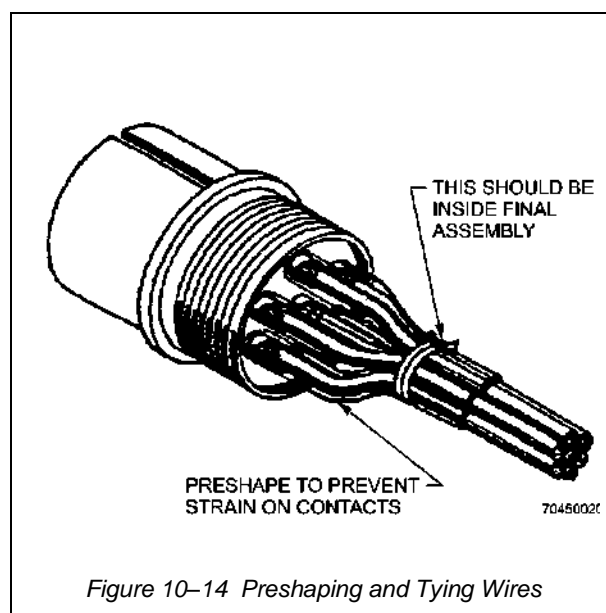

Figure 10-14 Preshaping and Tying Wires
25. Preshape large diameter wires (No. 14 and larger) before soldering to contacts. This will avoid strain on soldered connection when cable clamp is installed. See Figure 10-14.